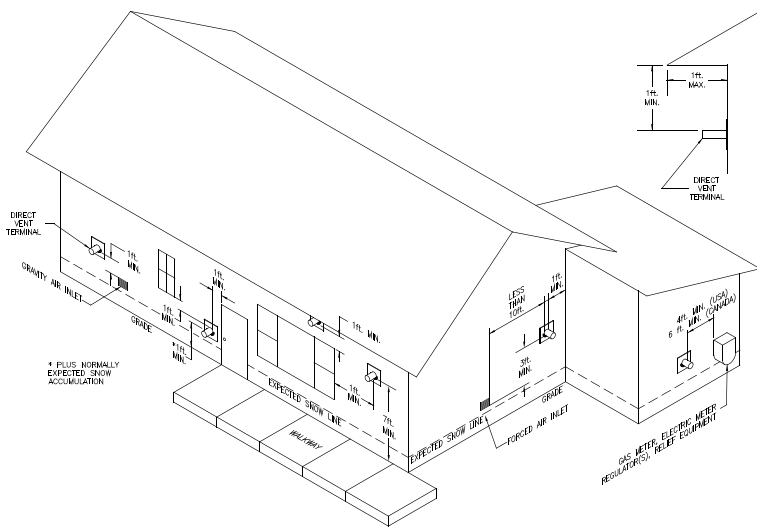

Figure 2: Vent Terminal Location
3. Refer to the appropriate drawings in this section of this manual to determine the proper configuration of venting system (Figures 2 thru 11). The vent system shall be installed in accordance with the instructions listed in this manual.